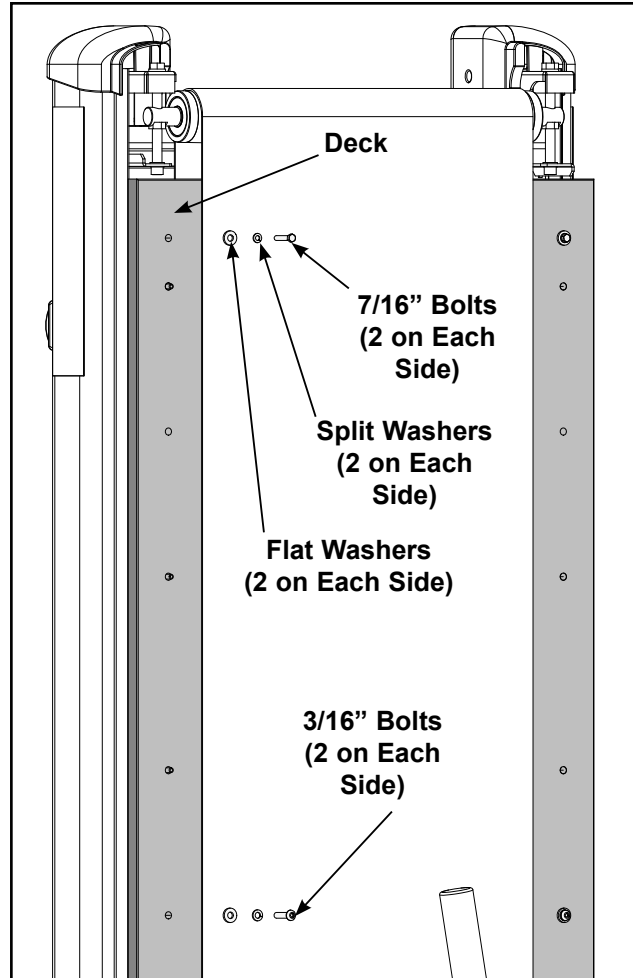

Figure 11
- A. Using a 7/16" socket wrench, remove the two screws, two split washers and two flat washers that hold the back of the deck in place. See Figure 11.
- B. Using a 3/16" Hex key, remove the two screws, two split washers and two flat washers that hold the front of the deck in place. See Figure 11.
- B. Install the bolt, bronze bushing and nut for each side of the roller into position. See Figure 11.